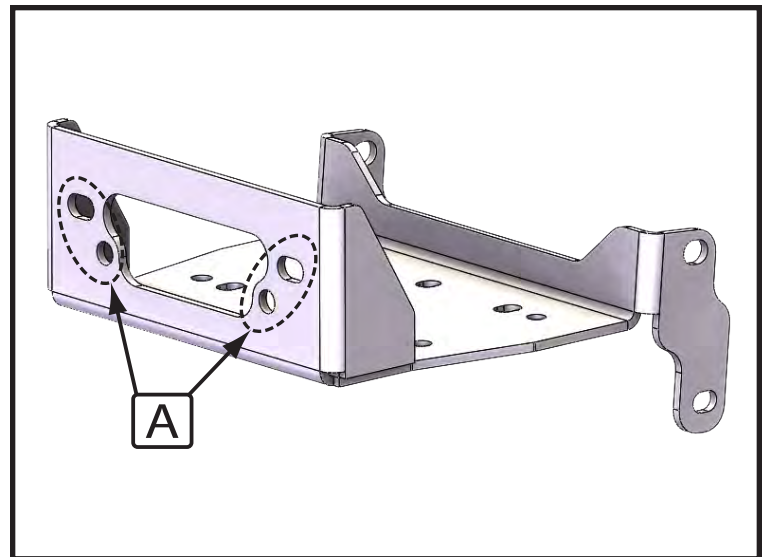

Figure 2: Plow Mount Bolt Locations.
1. Remove the 6 bolts (A) holding the lower plastic shroud to the bumper as shown in "Figure 2".
"Figure 2" Plastic Shroud Removal
2. Install the plow mount plate using the 1" flanged bolts, placing bolts through holes (A) in the winch mount plate. See **Figure 2 and 3**.
2. Set plow mount (1) onto skid plate and insert bolts (7.1) into holes (B) positioning plow mount onto skid plate in the proper location as shown in **Figure 2**.
3. For a reference, measure 1 5/16" from bottom of plow mount (1) to the lower feature of the skid plate as shown in **Figure 2**.
4. Mark skid plate at holes (C) with a marker using plow mount (1) as a template as shown in **Figure 2**, remove plow mount (1) from skid plate and drill through the skid plate on the center of each of the four marks using a 1/2" drill bit. NOTE: Drilling a larger hole or slotting the hole may be needed for more adjustment in plow mount (1).
1. Remove OEM skid plate by removing bolts (A) as shown in **Figure 2**.